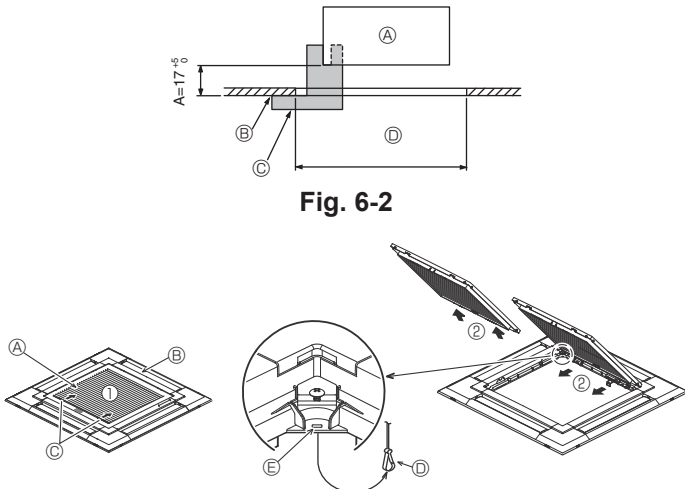
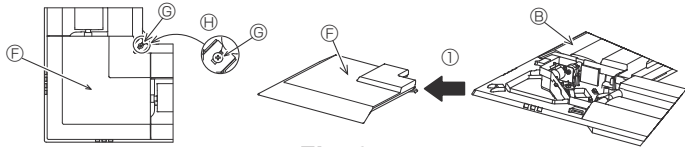
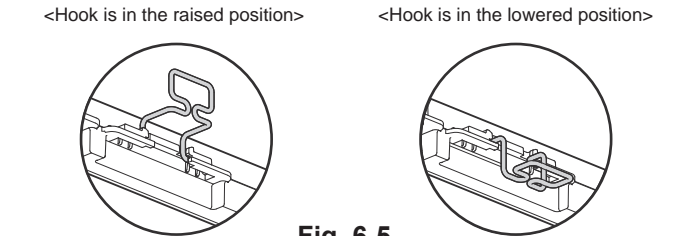

Fig. 6-2
Fig. 6-3
Fig. 6-4
①	Grille	1	950 × 950 (mm)
②	Installation gauge	1	(Divided into 4 parts)
③	Screw (4 × 16)	1	For PLP-6EAE, PLP-6EALME, PLP-6EALME
④	i-see Sensor corner panel	1	For PLP-6EAE, PLP-6EALME, PLP-6EALME
⑤	Wireless remote controller	1	For PLP-6EALM, PLP-6EALME
⑥	Remote controller holder	1	Included when equipped with the wireless remote controller.
⑦	LR6 AA batteries	2	Included when equipped with the wireless remote controller.
⑧	3.5 × 16 tapping screws	2	Included when equipped with the wireless remote controller.
6.2. Preparing to attach the grille (Fig. 6-2)
- With the gauge ② supplied with this kit, adjust and check the positioning of the main unit relative to the ceiling surface. If the main unit is not properly positioned relative to the ceiling surface, it may allow air leaks or cause condensation to collect.
- ① Main unit
- ② Ceiling surface
- ③ Installation gauge ② (inserted into the main unit)
- ④ Ceiling opening dimensions
6.2.1. Removing the intake grille (Fig. 6-3)
- Slide the levers in the direction indicated by the arrows ① to open the intake grille.
- With the intake grille in the "open" position, remove the hinge of the intake grille from the grille as indicated by the arrows ②.
6.2.2. Removing the corner panel (Fig. 6-4)
- Loosen the 4 screws on the corner. Slide the corner panel in the direction of the arrow ① in the figure and remove the corner panel.
[Fig. 6-3] [Fig. 6-4]